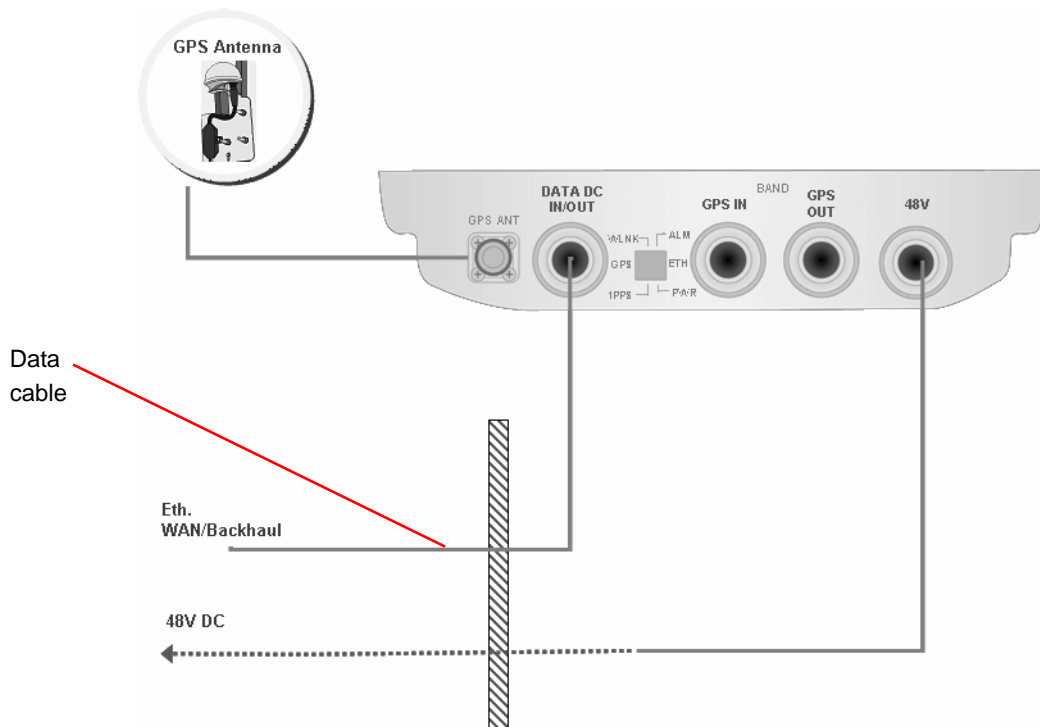

Figure 2-21: Connecting Data Cable Directly to the Backhauling Equipment
- » If you are not using PoE - directly to the backhauling equipment. See Figure 2-21.